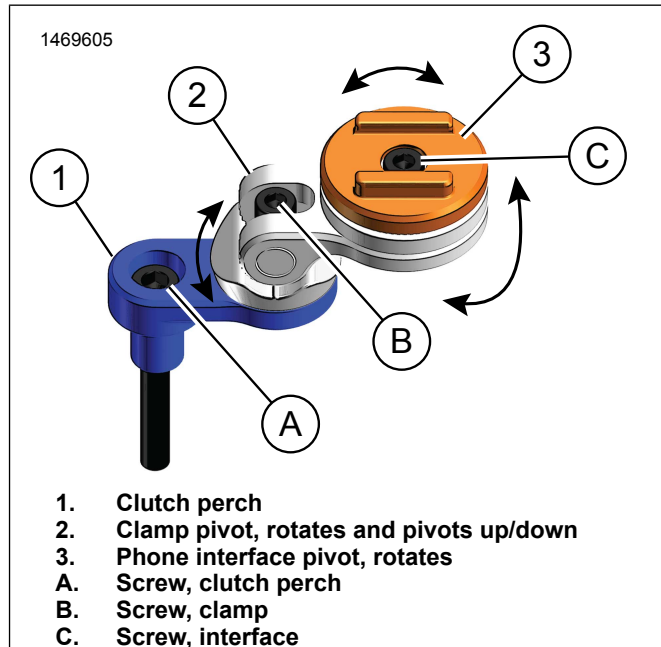

Figure 4. Pivot Points
4. See Figure 4. Loosen screw (B) to adjust orientation on clamp pivot. Tighten.
5. See Figure 4. Loosen screw (C) on phone interface (3) to adjust phone clocking. Tighten.